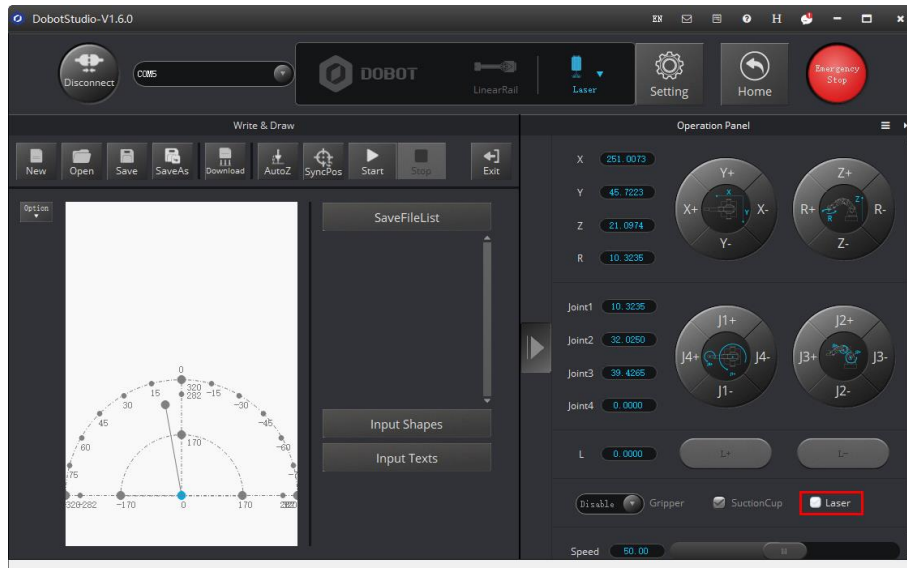

Figure 5.79 Unselect the Laser
Step 3 Press and hold the unlock button  on the Forearm to move the robotic arm to raise and lower the height of the laser kit until the laser is the brightest with a smallest possible spot size. When the laser power level is high enough, the laser beam can burn and cut the paper. After getting a pretty good focus, unselect **Laser** on the **Operation Panel** page to turn off the laser, as shown in Figure 5.79.